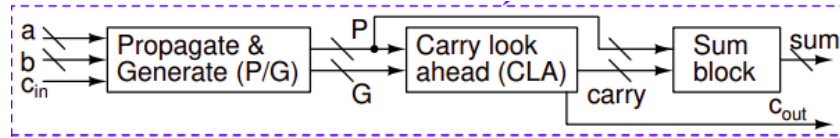

Figure 1: Different blocks in Adder
You are asked to design a 4-bit carry look ahead (CLA) adder as shown in Fig.1. Each output sum bit needs to drive an inverter of size $\frac{W_p}{W_n} = \frac{20\lambda}{10\lambda}$, where $\lambda = 0.09\mu m$. You can choose any logic style (static, dynamic, mix) to implement the circuit.
6. ✓ Integrate different block designed in previous steps and write the netlist for the full circuit shown in figure 1. Use NGSPICE and verify the functionality of the circuit. Attach the properly annotated waveforms. Report the worst case delay of your adder and maximum clock speed for which your design operates correctly.